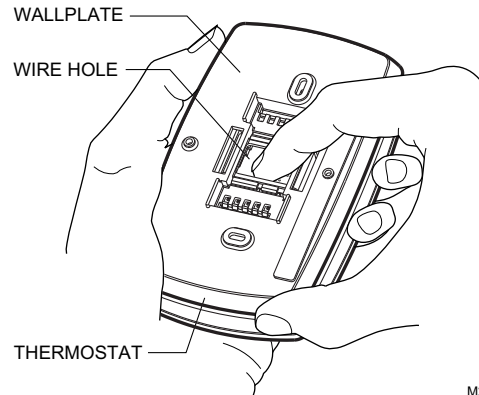

Fig. 6. Separate wallplate from thermostat.
1. Separate the wallplate from the thermostat. See Fig. 6.